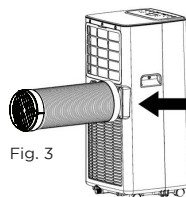

Fig. 4
5. Affix the hose outlet into the window slider kit and seal. (Fig. 4 & 5)